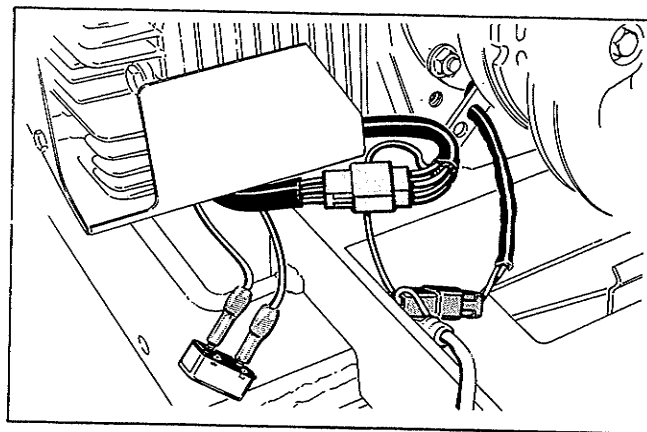

Figure 6. Engine Electrical Connections
3. Disconnect the circuit breaker, front clutch and main harness electrical connections at the right front side of the engine (Figure 6).